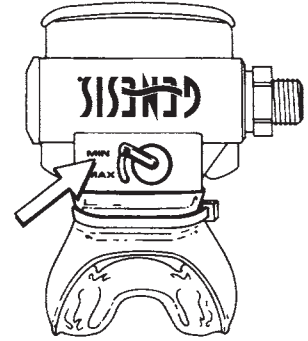

Figure 9
- Place the Vane Adjustment Switch (item 2) in the "MIN" position. *Figure 9.* Slowly pressurize the 1st Stage regulator to 3500 to 3000 psig. Verify a steady hose pressure of 135-150 psig.
- With a 1/8" screwdriver, loosen the adjusting screw (item 11) by turning the screwdriver counter clockwise until there is barely a leak. Next, turn the adjustment screw clockwise until the leak just stops.